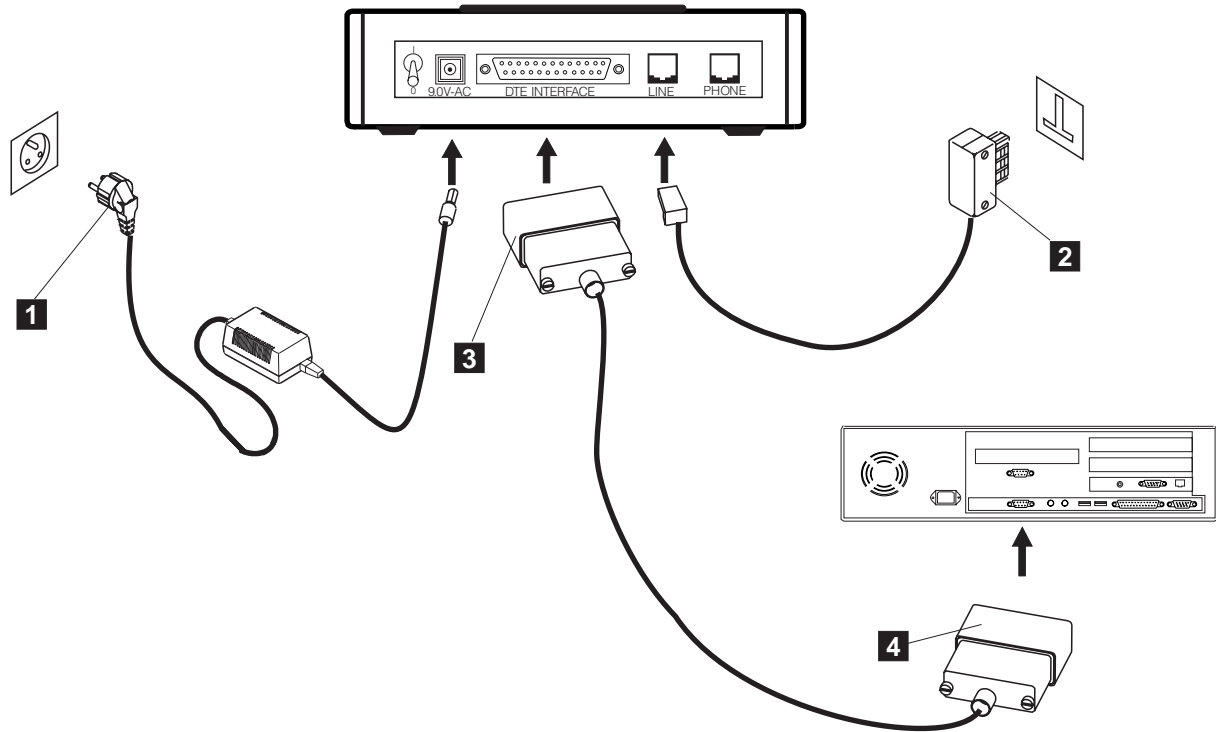

Figure 1-18. Connecting the Hayes
2. Refer to Figure 1-18 on page 1-15 and connect the cables as follows: